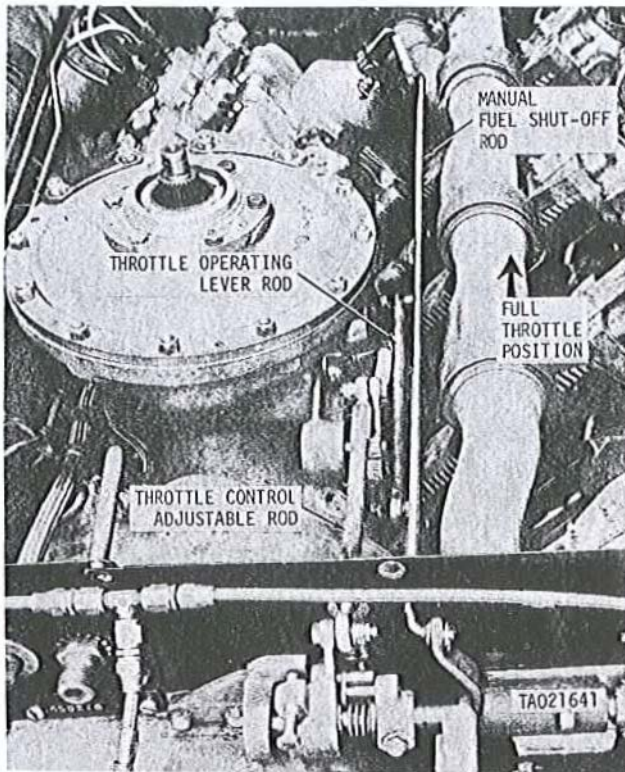

Figure 2-56. Checking throttle linkage for free movement.
(12) Check throttle control adjustable rod (fig. 2-56), manual fuel shut-off rod and throttle operating lever rod for free movement.